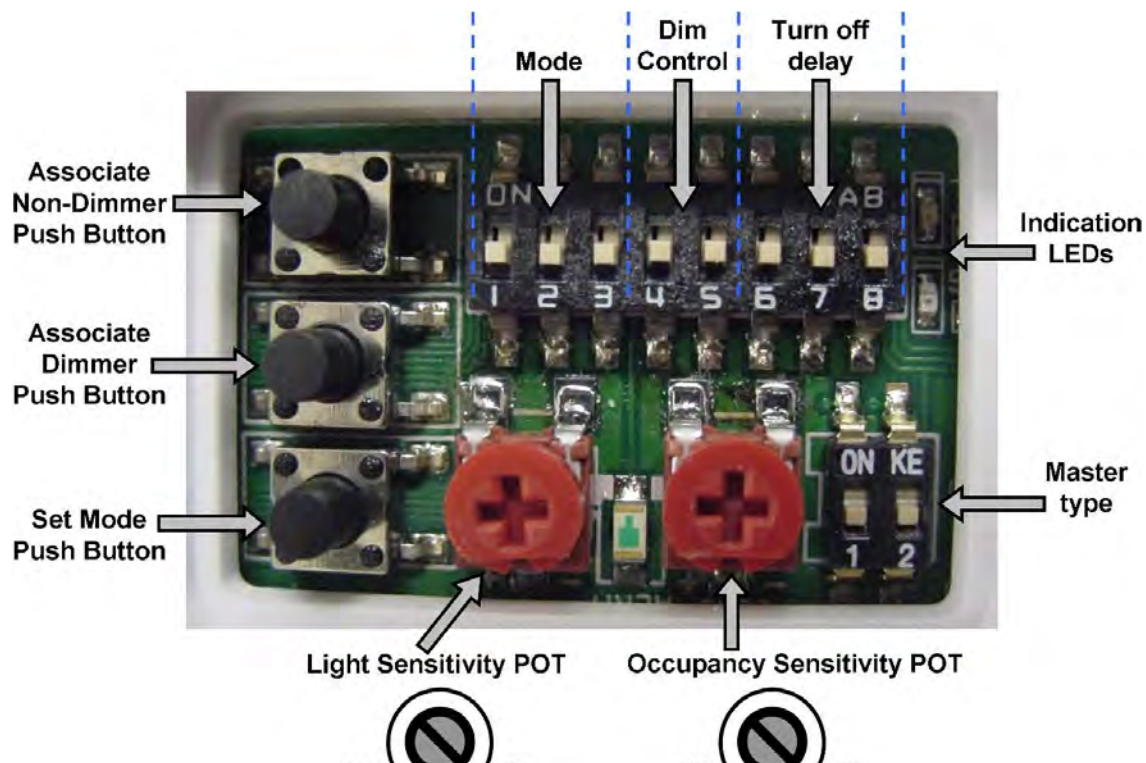

Figure 13. Location of Master Configuration Settings
Figure 13 shows the location of each configuration interface on the ZAURA Detector.
2. Depress the **Associate Dimmer** button on the Master until the green LED blinks one time. Refer to Figure 13 on page 18 for button location.
1. On the back of the Master, change the mode to **Toggle Dimming Lamps** by sliding DIP Switch 2 to the ON position. Refer to Figure 13 on page 18 for a description of the different modes and the location of the DIP switches.